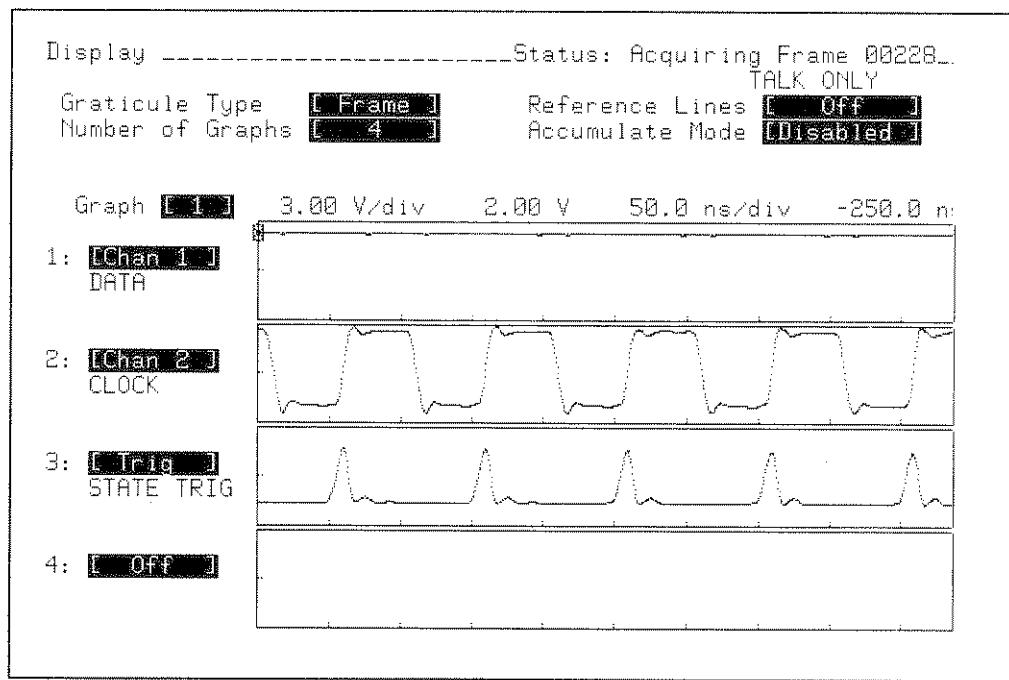

Figure 9-33. DISPLAY Configuration and Threshold Test Waveforms
10. Configure the display as shown in figure 9-33. The waveforms should appear similar to those shown in figure 9-33.
12. Increase the output of the DC Supply until the "STATE TRIG" pulses reappear as shown in figure 9-33. The DC Supply should read ≥ 3.78 V and ≤ 4.22 V.
23. Increase (more positive) the output level of the DC Supply in 0.01 volt steps until the "STATE TRIG" waveform appears as shown in figure 9-33. The DC Supply should read ≤ -3.78 V and ≥ -4.22 V.